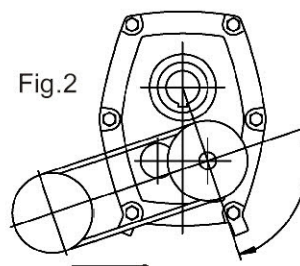
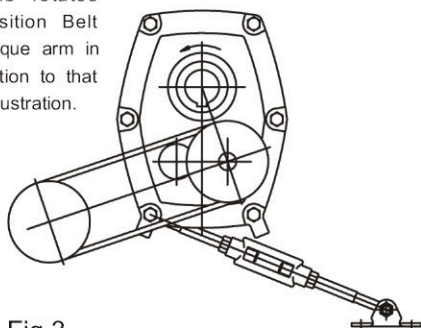

Fig.2
Fig.3
2. Install motor and belt drive with the belt pull at approximately 90° to the center line between driven and input shafts(See Fig.2). This will permit tensioning of the wedge belt drive with the torque arm which should preferably be in tension. If output hub runs anti-clockwise, torque arm should be positioned to the right(See Fig.3).